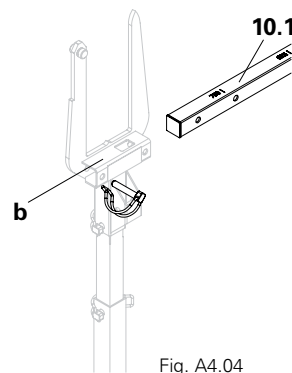

Fig. A4.04
3. Insert the measuring rod (10.1) into the holder (b). When inserting, make sure that the measurements are visible at the top. Adjust the distance gauge to ensure the corresponding cross girder spacing. (Fig. A4.04)